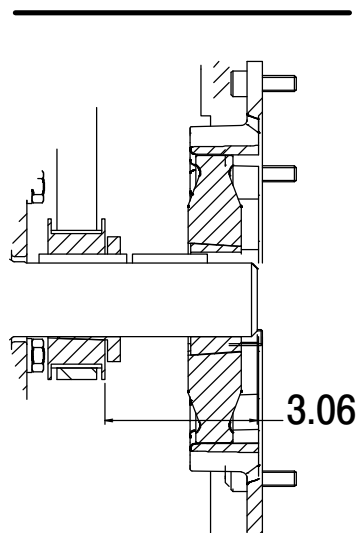

Figure 8. Drive Sprocket Positioning
Install the inboard key supplied with bushing (13) making sure to leave room in the keyway for the drive key (5, Figure 3). Install the sprocket (14) and bushing (13) on the shaft to the dimension shown in Figure 8.
When properly installed to the dimension shown in Figure 8, the key (5, Figure 3) **will not** extend fully through the bushing. This is an acceptable fit for this application.
Install the shaft key (5, Figure 3) in the shaft keyway. Align the keyway in the bushing (3) with the shaft key, and slide the bushing onto the shaft to the dimension shown in Figure 8. Rotate the flexible portion of the coupling until the tapped holes for the two setscrews align with those in the bushing, and install the setscrews.